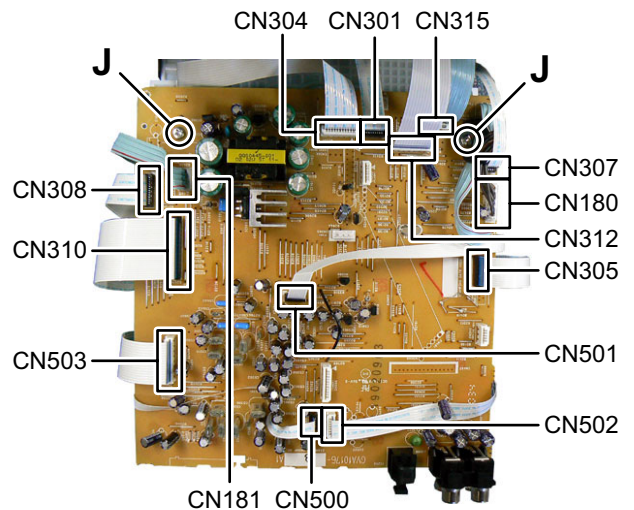

Fig.6
3.1.3 Removing the Main board (See Fig.6)
- (2) Remove the screw **D** and **E** attaching the spring holder. (See Fig.6)